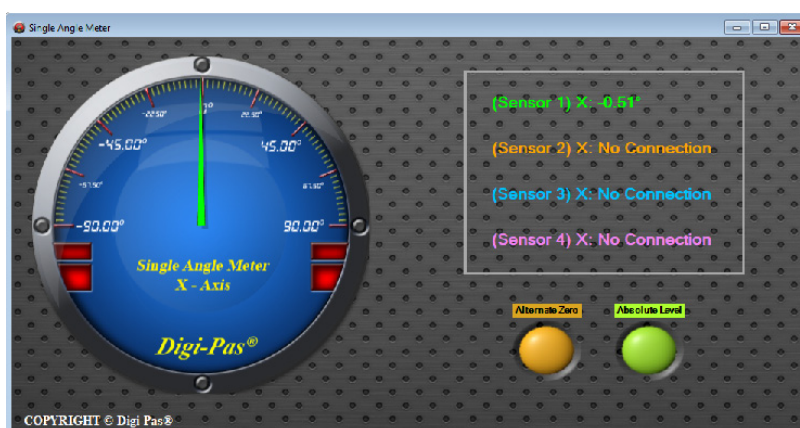

Figure 20. Interface of the PC SYNC software with Single Angle Meter feature
7. Screen as illustrated in Figure 20 appears. The feature icons are enabled and ready for selection (e.g. Single Angle Meter, Dual Angle Meter...). Following is an example when Single Angle Meter feature icon is clicked.